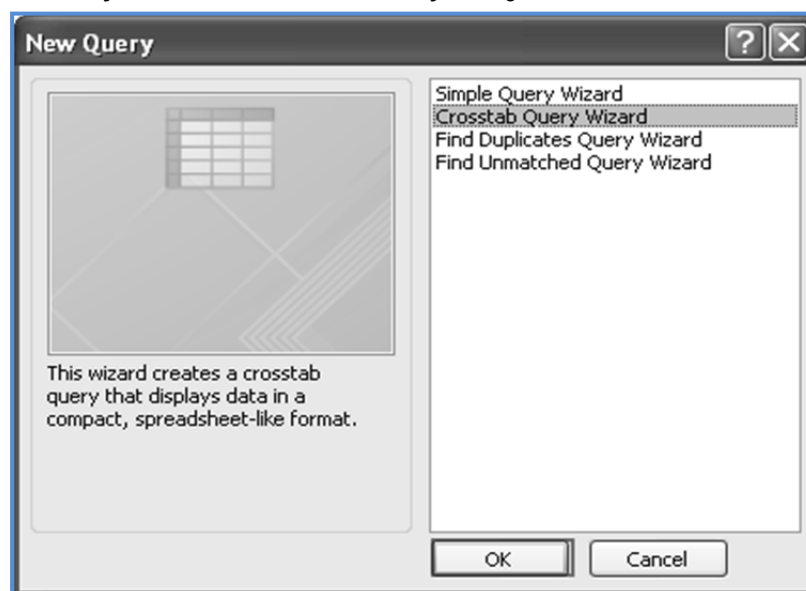

Fig. 1.2.40: Select Crosstab Query Wizard
2. Select **Crosstab Query Wizard** from the **New Query** dialog box and click **OK** as in Fig. 1.2.40.